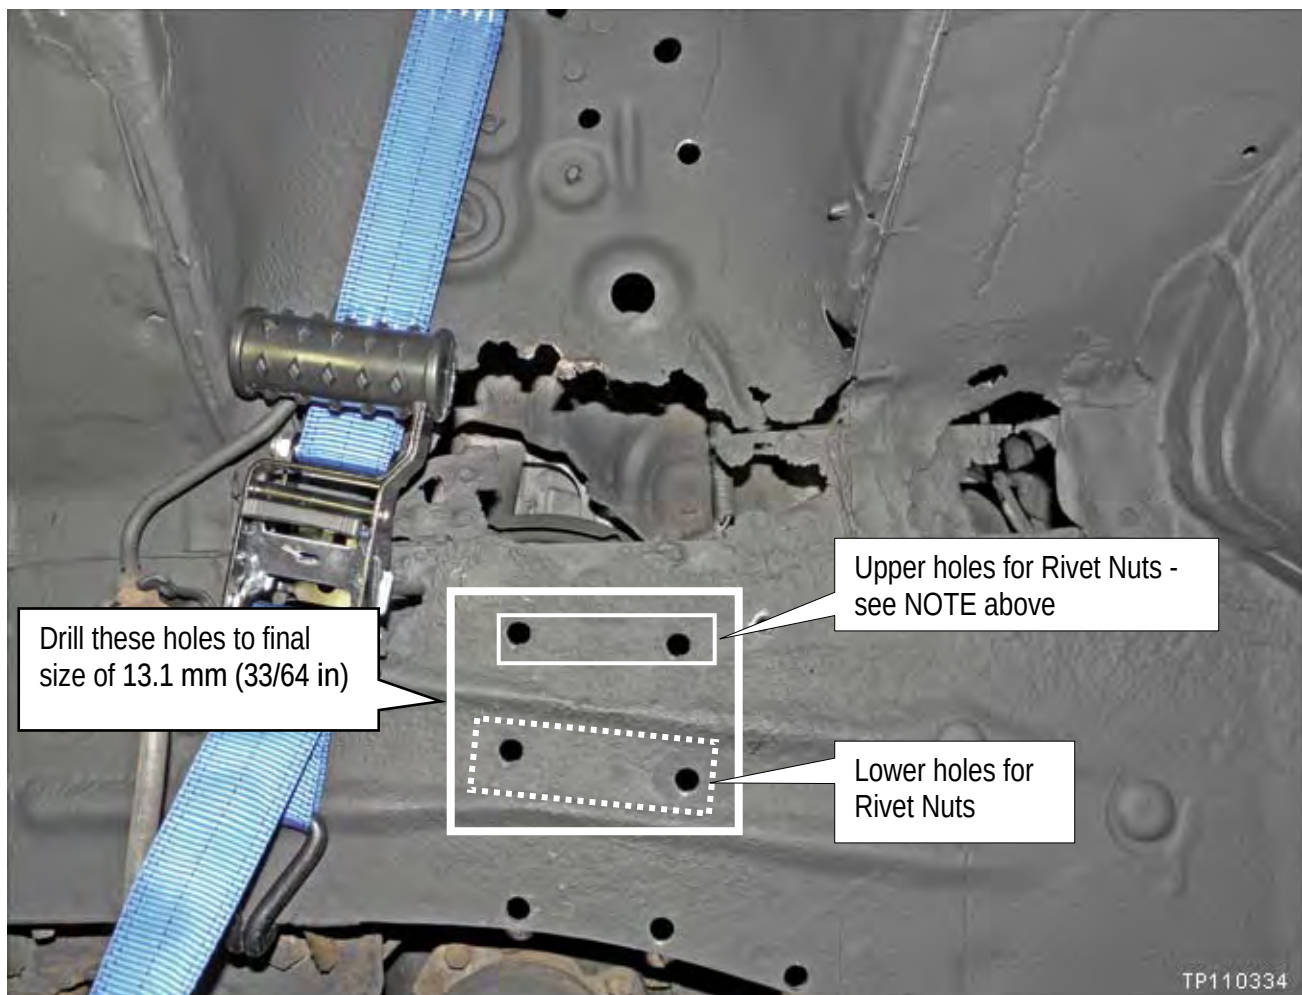

Figure RB10
21. For the 4 holes that will have Rivet Nuts installed, drill final hole size to 13.1 mm (33/64 in). See Figure RB10.
22. Install Rivet Nuts in the 13.1 mm (33/64 in) holes (see Figure RB10).
- **Lower holes - Required:** Rivet Nuts are required in the lower holes (indicated with dashed line in Figure RB10).